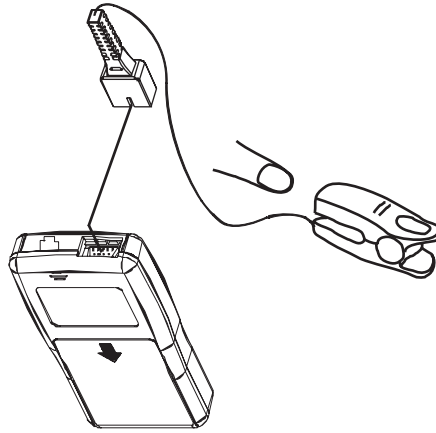

Figure 3-2 : Installing and use the probe
1. Refer to Figure 3-2, Connect the Oximeter plug to pulse oximeter convex interface .